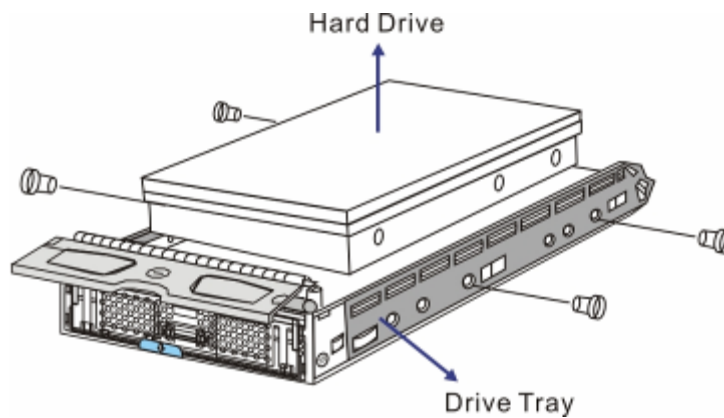

Figure 5-25: Removing the Hard Drive
- Step 5.** Remove the four (4) retention screws that secure the hard drive from the sides of the drive tray (two on each side). (See *Figure 5-25*)